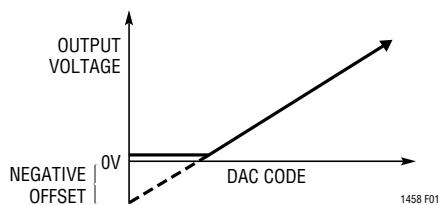

Figure 1. Effect of Negative Offset
**Voltage Offset Error ( $V_{OS}$ ):** The theoretical voltage at the output when the DAC is loaded with all zeros. The output amplifier can have a true negative offset, but because the part is operated from a single supply, the output cannot go below zero. If the offset is negative, the output will remain near OV resulting in the transfer curve shown in Figure 1.